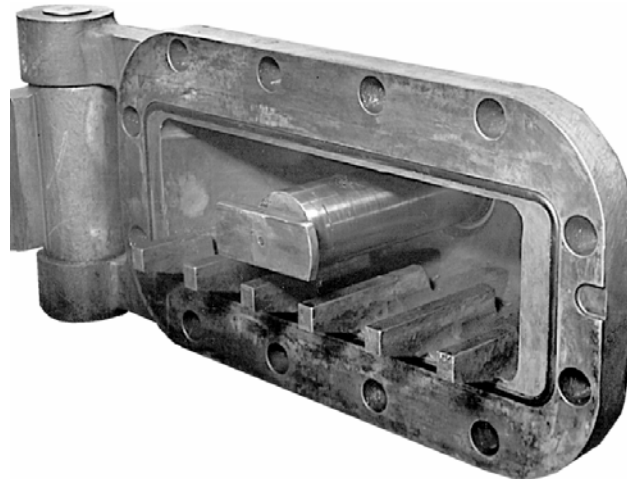
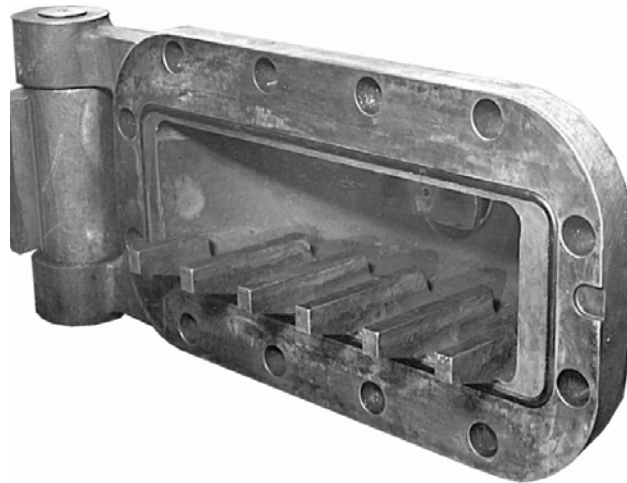

Figure 4-8. Ram Removed from Ram Shaft
Figure 4-9. Ram Shaft Inside Door Cavity
9. After the ram is removed, slowly open the ram with reduced hydraulic pressure so the ram shaft is in the cavity of the BOP door (see Figure 4-8 and Figure 4-9). This will prevent the ram shaft from being damaged.